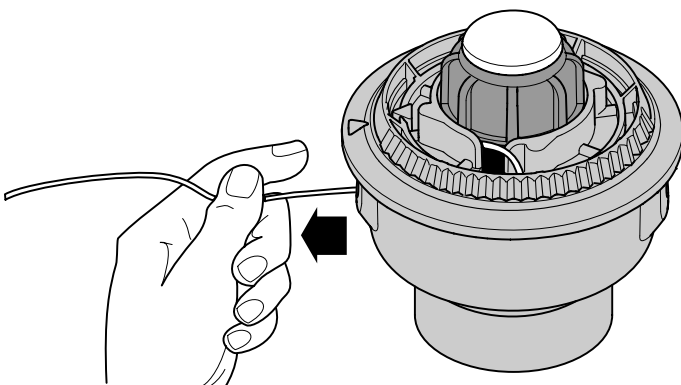

Fig. 21
6. Pull the line from the outer spool until the line is tight against the inner reel (Fig. 21).